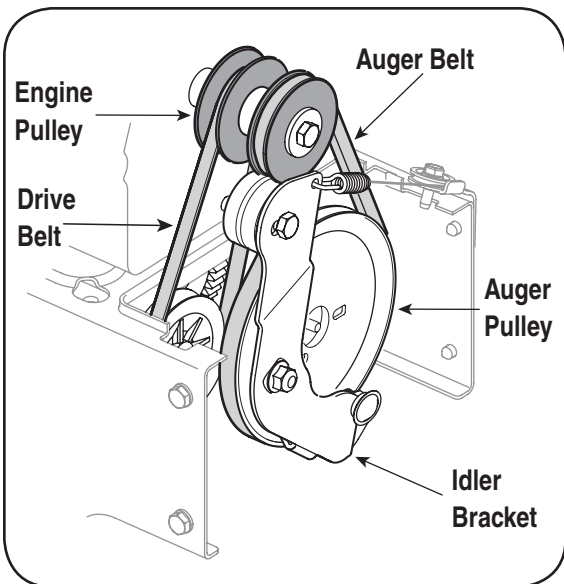

Figure 12
2. Slip the front auger belt off of the engine pulley pushing it forward and rolling in off of the pulley. See Figure 12.
5. Place the new drive belt into the groove on the engine pulley. See Figure 12.